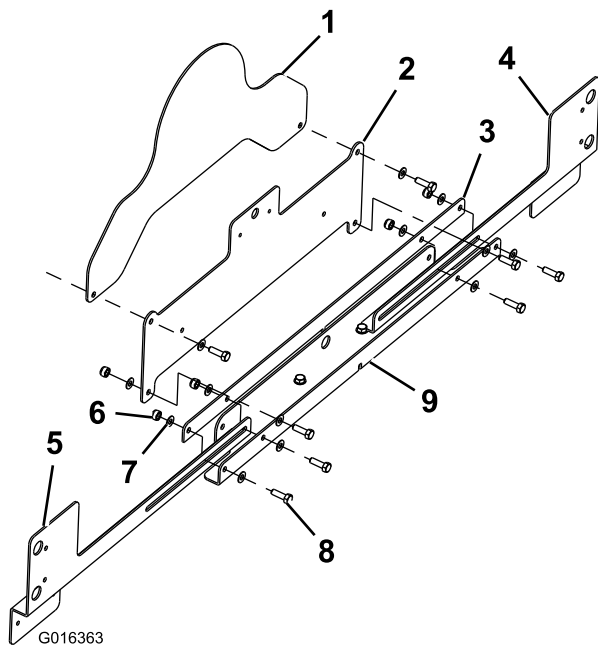

Figure 9
1. Assemble the tail board assembly as shown in Figure 9.